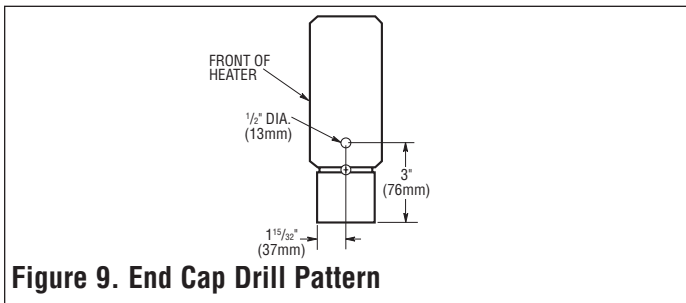

Figure 9. End Cap Drill Pattern
5. Connecting power supply cables may be routed from heater to heater by drilling a 1/2-inch (13mm) diameter hole in the end caps for the heaters that fit together (See Figure 9). To prevent possible damage to internal heater wiring, all drilling of end caps must be done with end caps removed from heater.